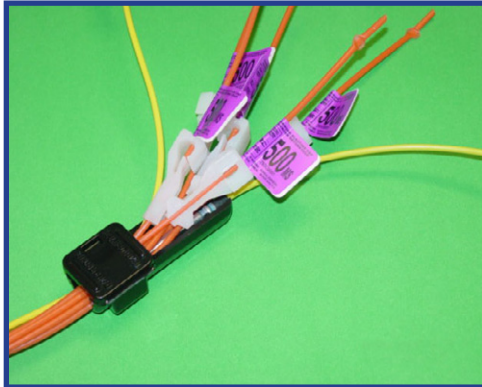

Figure 8 - Shock tube correctly inserted into Bunch Block.
1. Place all downlines and outgoing trunkline leads in the Bunch Block with the cap pointing in the direction of initiation and the tails behind the Bunch Block (Figure 8).